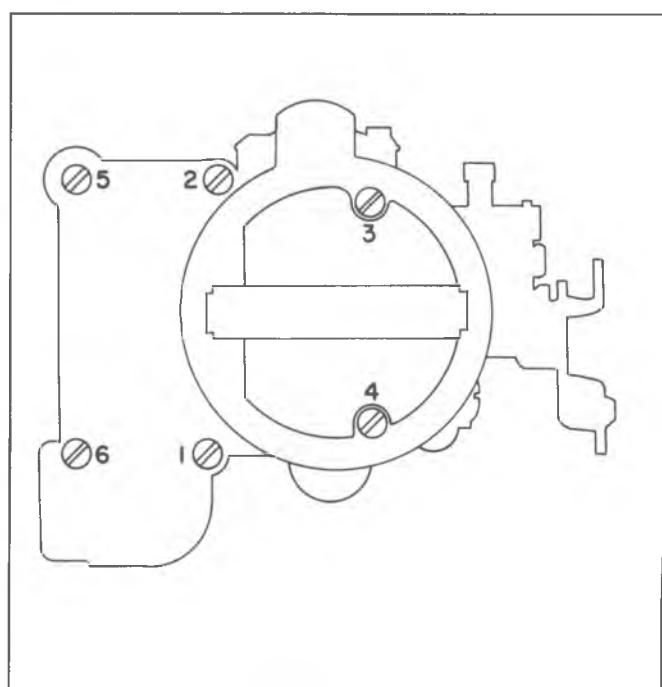

Fig. 6C-17--Tightening Sequence
lever link into notched hole in choke coil lever on choke housing. Then carefully twist and lower air horn onto float bowl. Install three long and one short air horn to float bowl attaching screws and lockwashers (Fig. 6C-16).
3. Install the choke vacuum break diaphragm assembly using two short air horn screws opposite the choke housing, connecting the choke vacuum break diaphragm link to slotted diaphragm plunger stem. The two attaching screws for the choke vacuum break assembly have tapered heads for locating choke diaphragm bracket. Make sure to use these in this location. Tighten all air horn screws evenly and securely using proper tightening sequence (Fig. 6C-17).